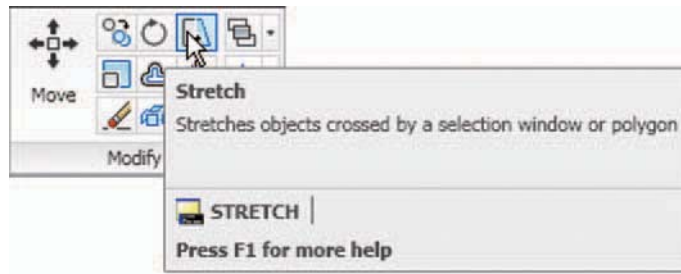

Fig. 5.33 The **Stretch** tool icon from the **Home/Modify** panel
2. Call the **Stretch** tool – either *click* on its tool icon in the **Home/Modify** panel (Fig. 5.33), *left-click* on its tool icon in the **Modify** toolbar, *pick* its name in the **Modify** drop-down menu, or *enter s* or *stretch* at the command line, which shows:
1. When circles are windowed with the crossing window no stretching can take place. This is why, in the case of the first example in Fig. 5.33, when the **second point of displacement** was *picked*, there was no result – the outline did not stretch.